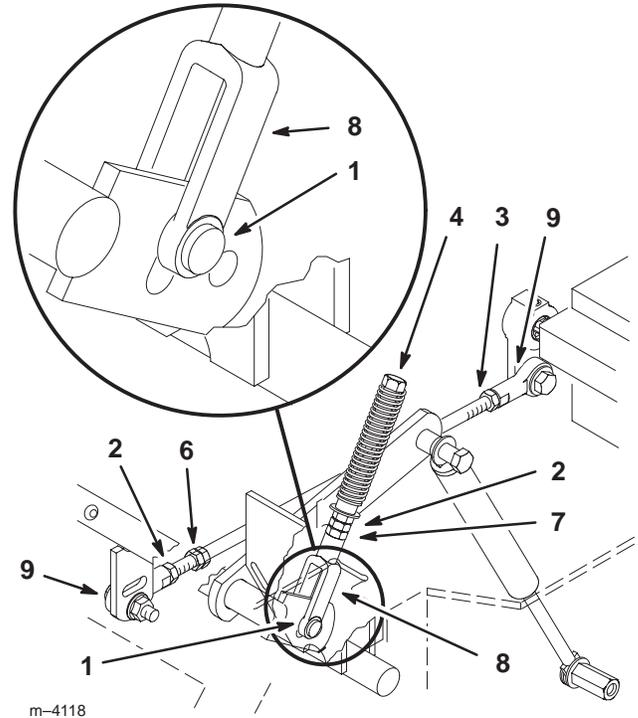

Figure 45
4. Pull lever back until the clevis pin (on arm below pivot shaft) contacts the end of the slot (just beginning to put pressure on the spring) (Fig. 45).
6. If adjustment is needed, loosen the nut and jam nut against the yoke (Fig. 45).
8. Tighten the nut and jam nut (Fig. 45).
1. Loosen the locknuts at the ball joints on pump control rod (Fig. 45).
3. Adjust pump rod length by rotating double nuts on rod, in the appropriate direction, until wheel is still or slightly creeps in reverse (Fig. 45).
- Tighten the nuts at the ball joints (Fig. 45).